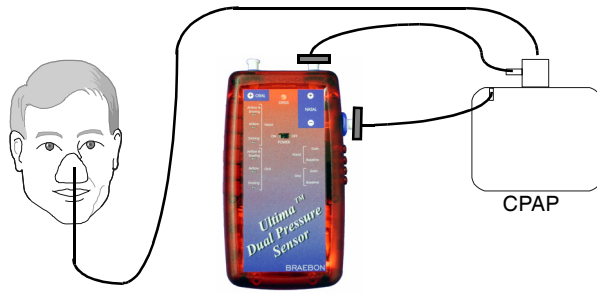

Figure 5 CPAP Adapter Connection and Connection to the Nasal Differential Input
1. Connect the CPAP circuit to the Braebon™ Safety Filter (Model 0583). See Figures 5, 6, and 7 for illustrations of different CPAP connection options.